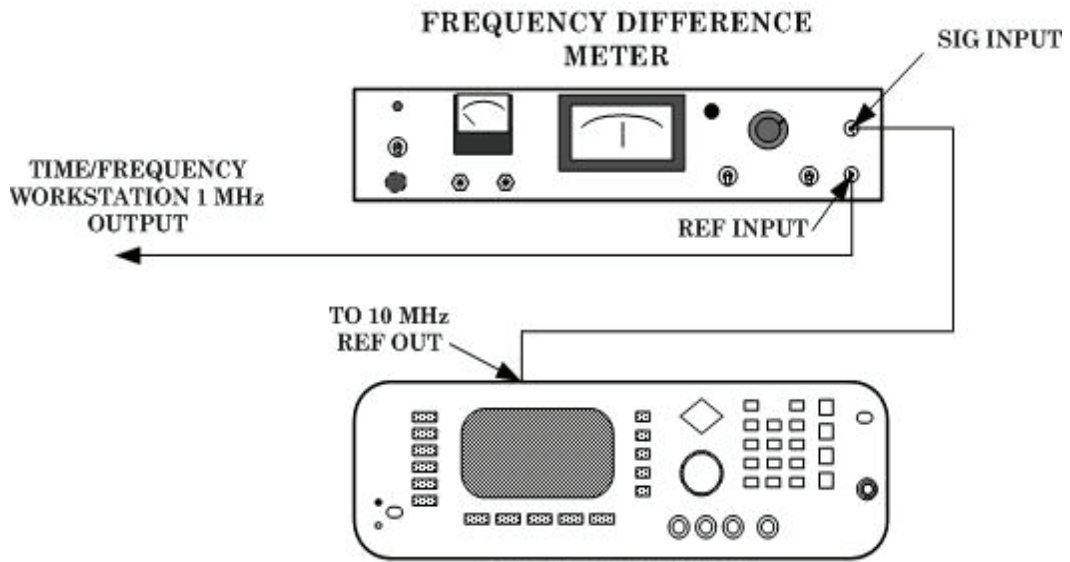

Figure 1. Time base verification hook-up.
d. Connect equipment as shown in figure 1.